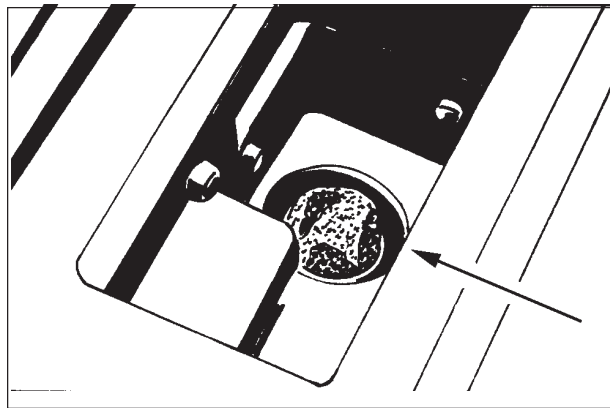

Figure 9
10. Inspect and clean the filter screen in the bottom of the solution tank. See figure 9. To remove the filter screen, turn the filter counterclockwise. To